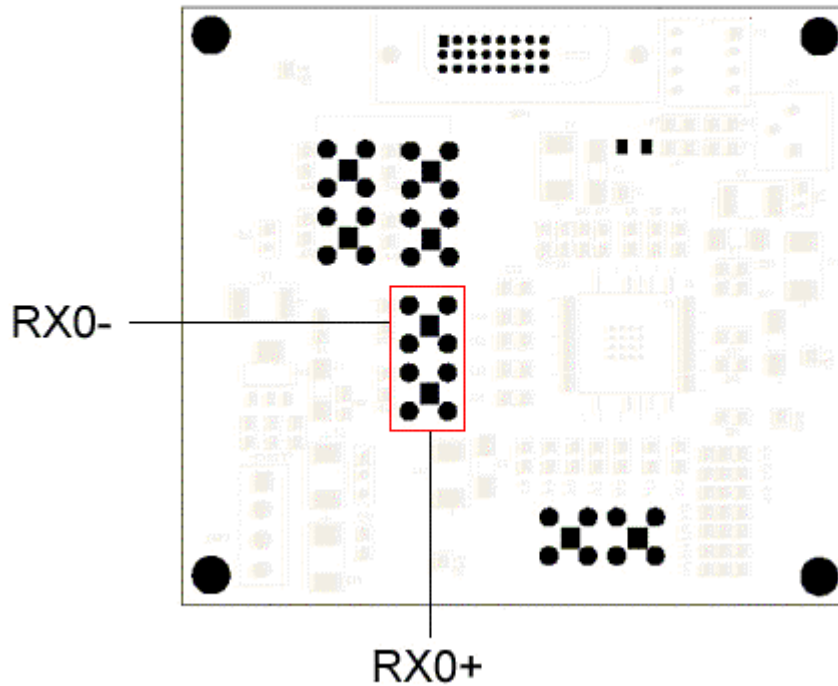

Figure 203: TPA-P test points
4. Connect two single-ended probes to the Rx0+ of one data pair and Rx0- of the same data pair as shown in the Figure 203.